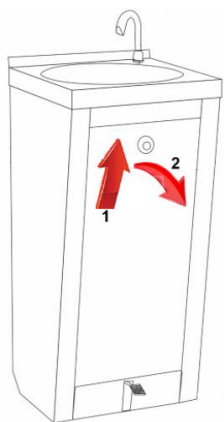

Fig. 7
- To remove it, place your finger in the upper hole and pull it vertically (1-up) and then pull it out (2) as shown in Fig. 7.